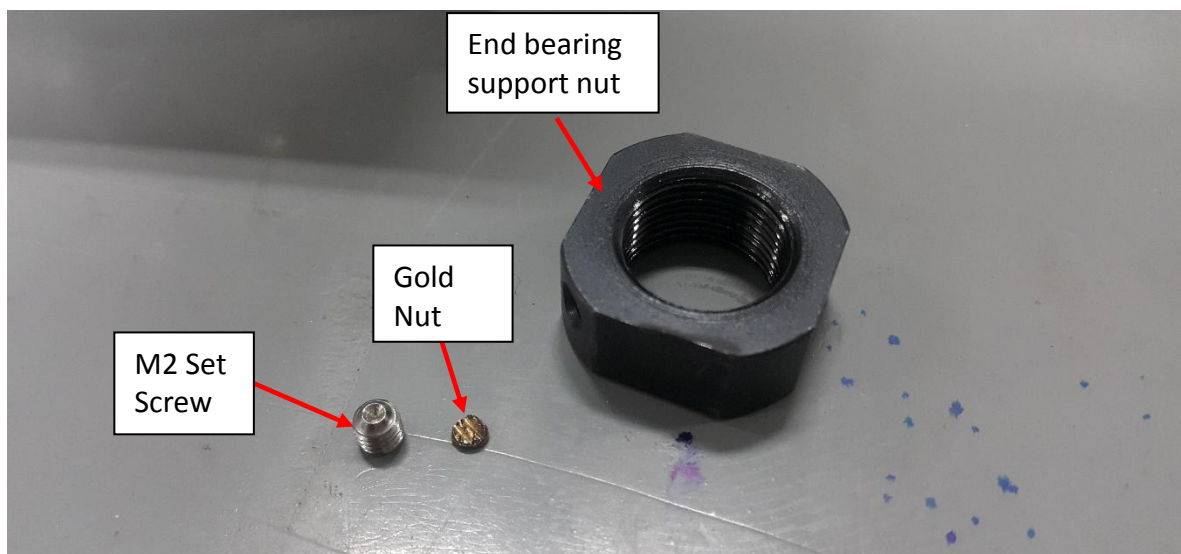

Figure 14 Gold Nut, M2 Set Screw & End Bearing Support Nut
15. Gently position End Bearing Support Nut , Gold Nut & M2 Set Screw at visible area .May refer to Figure 14.